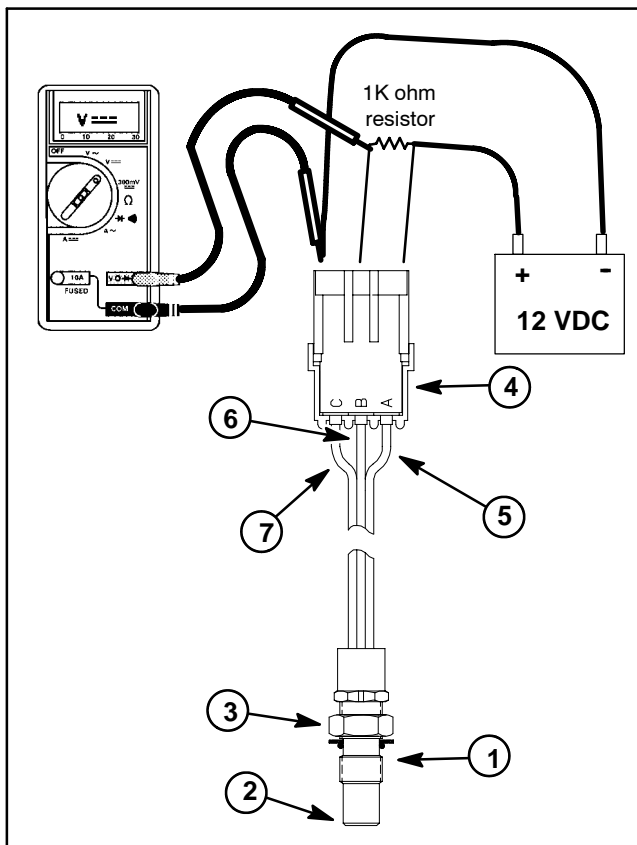

Figure 22
2. Using a +12 VDC battery, a multimeter, a 1K ohm resistor and appropriate jumper wires, connect the battery and multimeter to the speed sensor using Figure 22 as a guide.